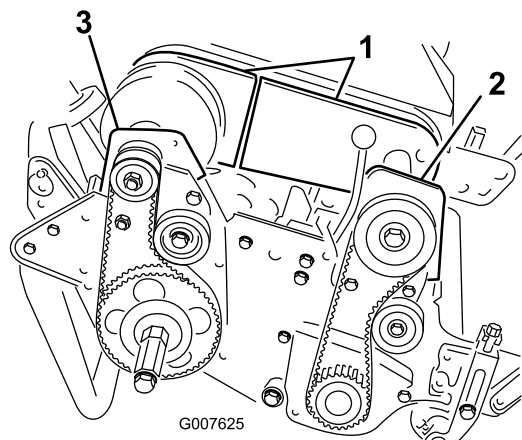

Figure 42
4. Remove the bolts securing the front and rear sections of the differential cover to the differential housing and slide the cover sections away to expose the belt (Figure 42).
8. Remove the 2 bolts and locknuts securing the right rear bearing housing to the side plate (Figure 42).
6. Remove the 2 bolts and locknuts securing the front clutch housing to the side plate (Figure 42).